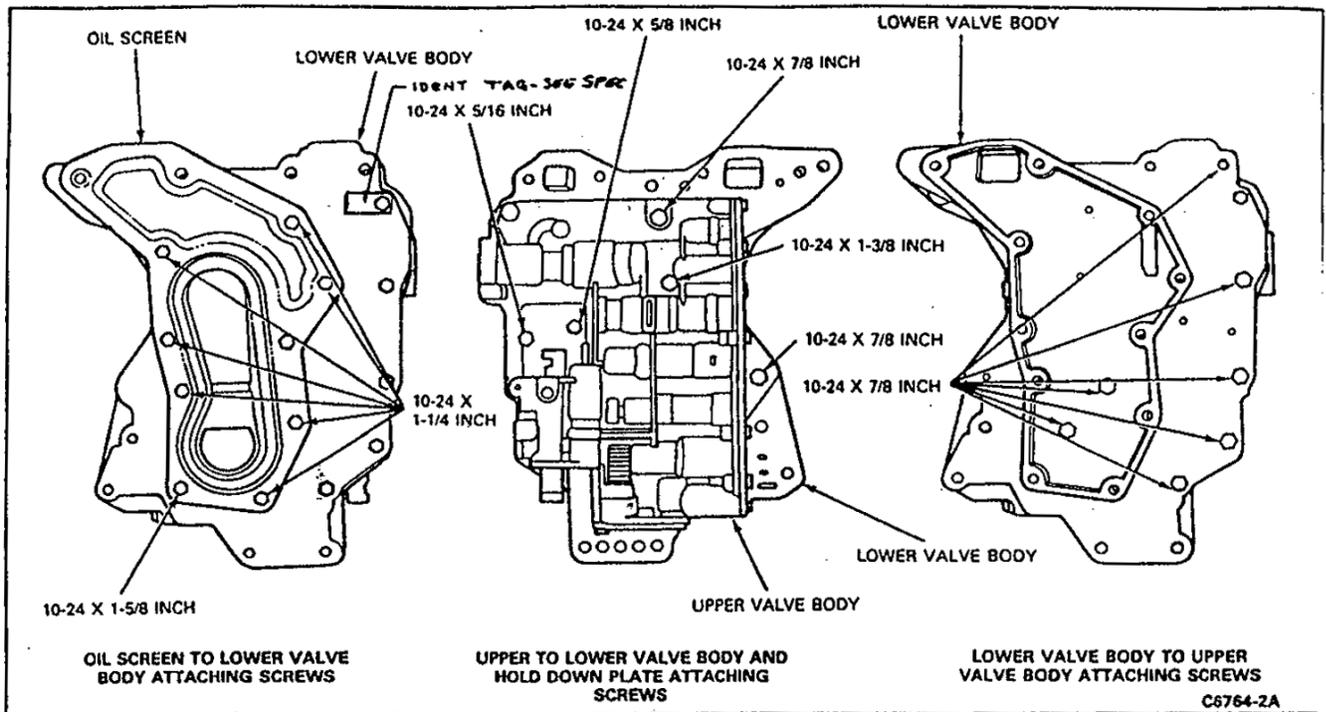

FIG. 24 Control Valve Body and Screen Attaching Screws
1. Remove the nine screws that attach the screen to the lower valve body (Fig. 24) and remove screen and gasket (Fig. 25).
2. Remove the five upper-to-lower valve body and hold-down plate attaching screws. Remove the seven attaching screws from the underside of the lower valve body (Fig. 24).
4. Place the lower body and plate assembly on top of the upper valve body (Fig. 24) and install the attaching screws finger tight.
7. Remove the oil screen attaching screws and place the gasket and oil screen in position on the lower valve body. Re-install the screen attaching screws (Fig. 24).